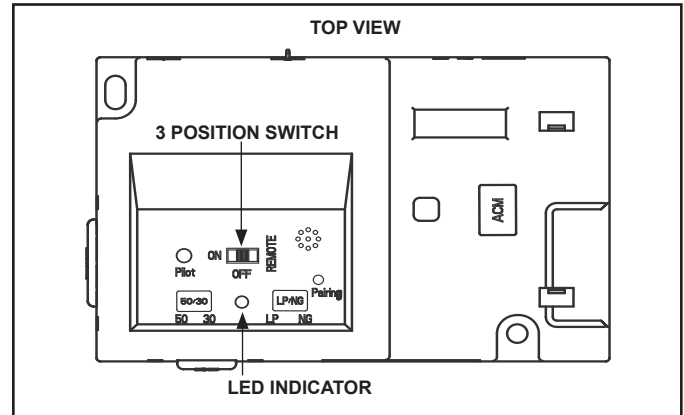

Figure 3.7. IFT-ECM
1. The Electronic Control Module (IFT-ECM) has a three-position ON/OFF/REMOTE selector switch that must be set for proper operation. See Figure 3.7. When changing switch positions, it is important to pause in each position for 1-2 seconds.